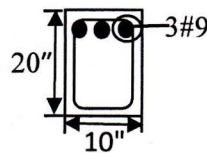

Figure:03
3. (a) Differentiate between singly and a doubly reinforced beam section with stress distribution. (02)
- (b) Calculate the stress in concrete fiber (top and bottom) and steel caused by the moment 45 k-ft of a rectangular RC beam as shown in Fig:03. Also, calculate the cracking moment. Concrete tensile strength in bending is 475 psi. (08)